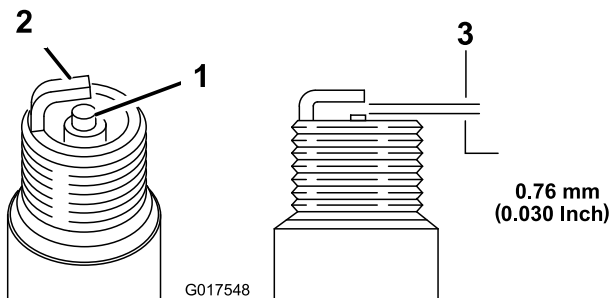

Figure 22
- Set the gap on the plug to 0.76 mm (0.030 inch) (Figure 22).